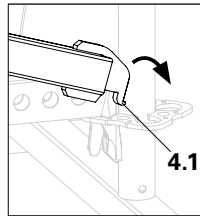

Fig. A1.11a
- Attach hook without slider (4.1) to the rosette and push down. (Fig. A1.11a + A1.11b)